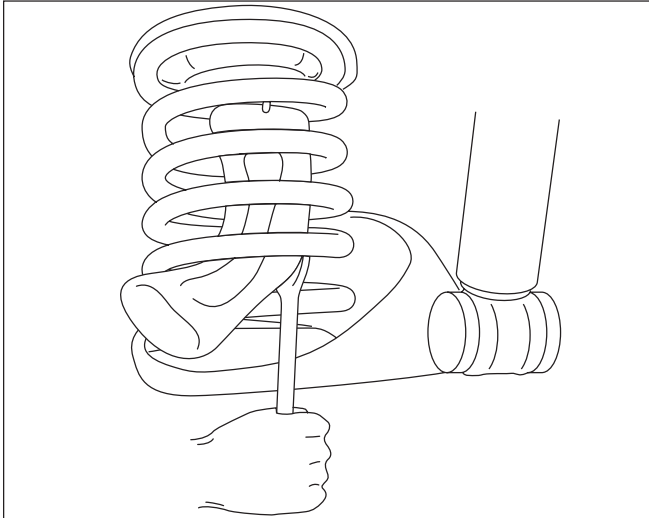

Figure 1
2. Air cylinders are shipped in the “as molded” shape. For ease of installation, remove the plastic cap from the barbed stem on the end of the cylinder. Push on the air cylinder to evacuate as much air as possible. The air bag may be rolled up toward the valve stem. Replace the cap on the stem to maintain the flattened shape (Figure 1).
3. Insert the flattened air cylinder into the coil spring through the lowest opening with the stem at the top (Figure 1).
4. Push the cylinder up within the coil by hand or with a blunt instrument such as a spoon-type tire iron (Figure 1).
If the vehicle's headlights are shining into the trees or the vehicle is leaning to one side, then it is not level (fig. 1). Raise the air pressure to correct either of these problems and level the vehicle.